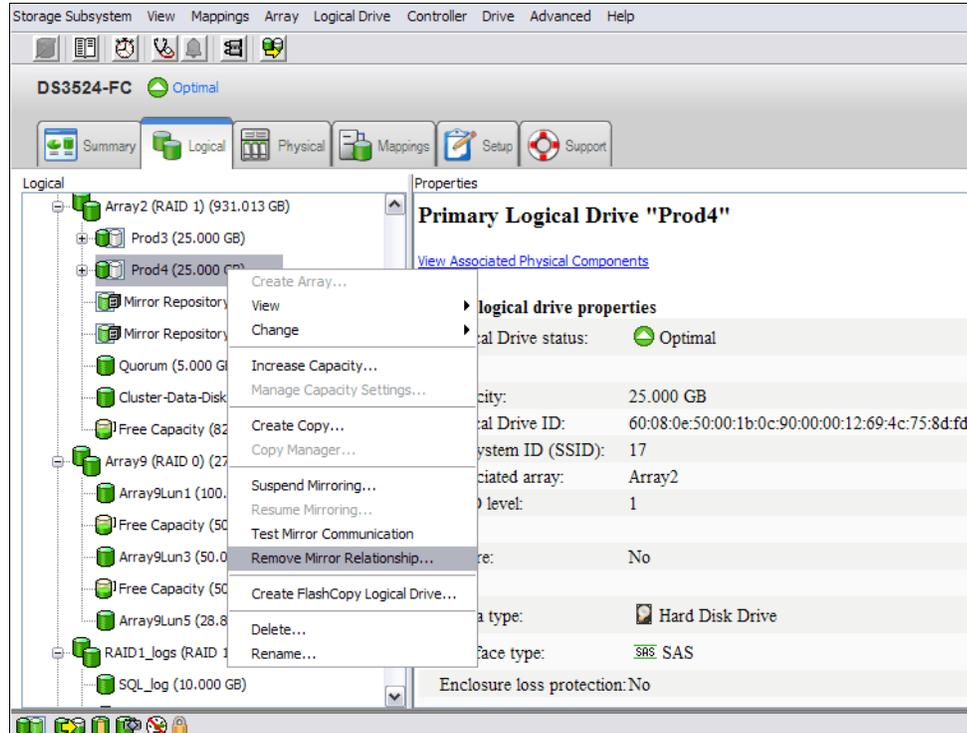

Figure 5-51 Selecting to remove a mirrored relationship
1. Select a primary or secondary logical drive in the logical view (whichever is local). Then, select **Logical Drive** → **Remote Mirroring** → **Remove Mirror Relationship**. (Or, right-click and select **Remove Mirror Relationship** from the pop-up menu.) as shown in Figure 5-51.